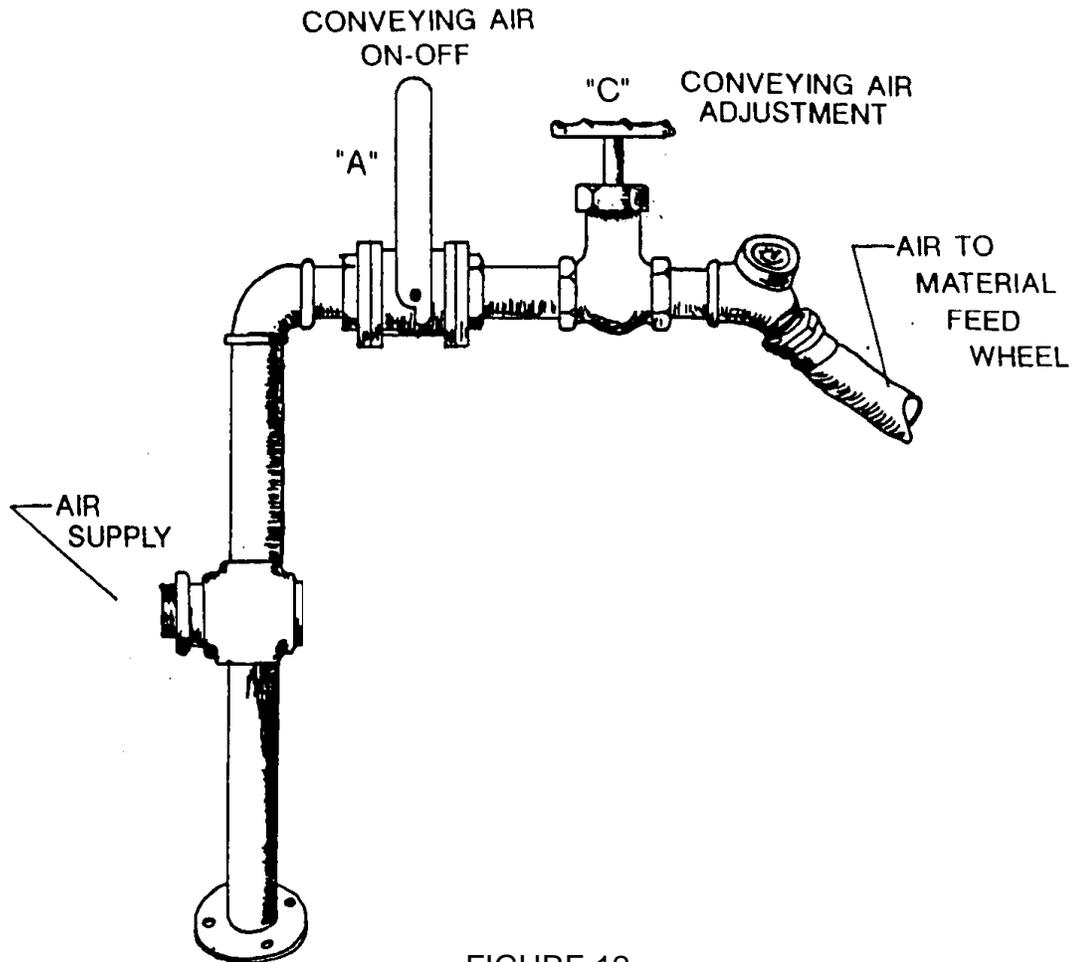

FIGURE 12
2. Turn the two (2) control valves, "A" and "C", to full off positions, Fig. 12
3. Turn Valve "A" full "On" (nothing will happen). See Figure 12.
1. Do not touch gate Valve “C”, Figure 12.
What to do: Add more conveying air (Open Valve "C", Figure 12 on page 17, gradually) until it settles down.